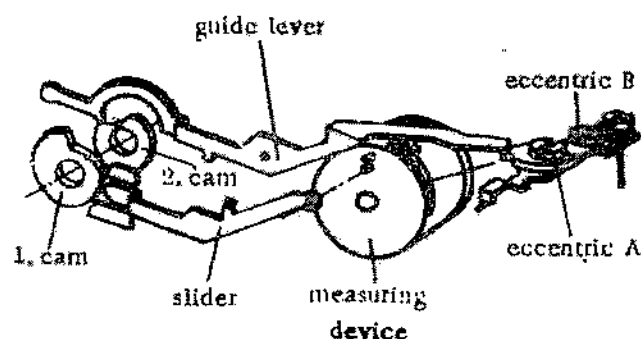

Fig. 7.1
4.1/2 of the shutter speed setting knob so that the guide lug is situated on the first cam behind the plate (see Fig. 7.1). Rotate the measuring device that the bearing bush of the slider is situated on the bearing pin of the measuring device. Mount the plates 6.1/13 and 6.1/14. If the rangefinder was removed during the assembly, the measuring device must be aligned with the aid of gauge 400-071.439-101 W1 and mounted. The gauge must be mounted in place of the rangefinder.
Insert the guide lever 6.1/7 at the time setting "B" so that the lug is guided in the milled recess of the main body and positioned on the second cam behind the plate of the shutter speed knob (see Fig. 7.1). Insert the guide rivet of the guide lever in the bearing angle 7.1/31 and screw the bearing angle firmly in position. Screw the screw 6.1/23 together with the spring 6.1/22 home and hook the spring in.
Screw the eye piece 042-792.002-000 W 12 on the rangefinder eyepiece and observe the exposure time indication through the viewfinder. If the lift between "B" and "1000" is too great or too small, i.e. if the pointer moves beyond both end settings or stops before both end settings, correction will be possible by rotation of eccentric "A" (see Fig. 7.1) of the guide lever 6.1/7.
If the whole indication is too far to the right or to the left, i.e. the pointer is situated in front or behind the time values, correction can be carried out by rotation of eccentric "B" (see Fig. 7.1) of the guide lever.